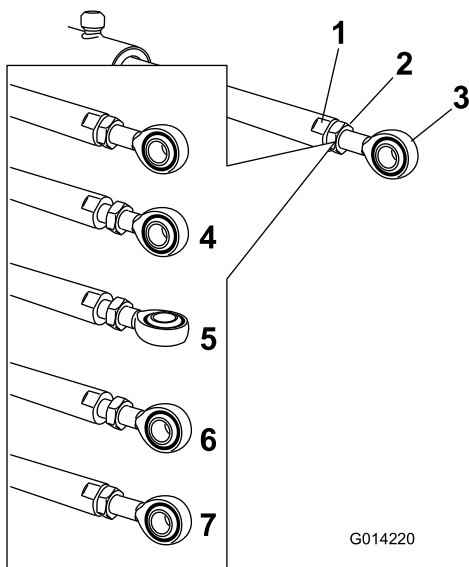

Figure 102
5. Use a wrench on the flat sides of the actuator rod to immobilize it, then loosen the jam nut to allow the eyelet rod to be adjusted (Figure 102).